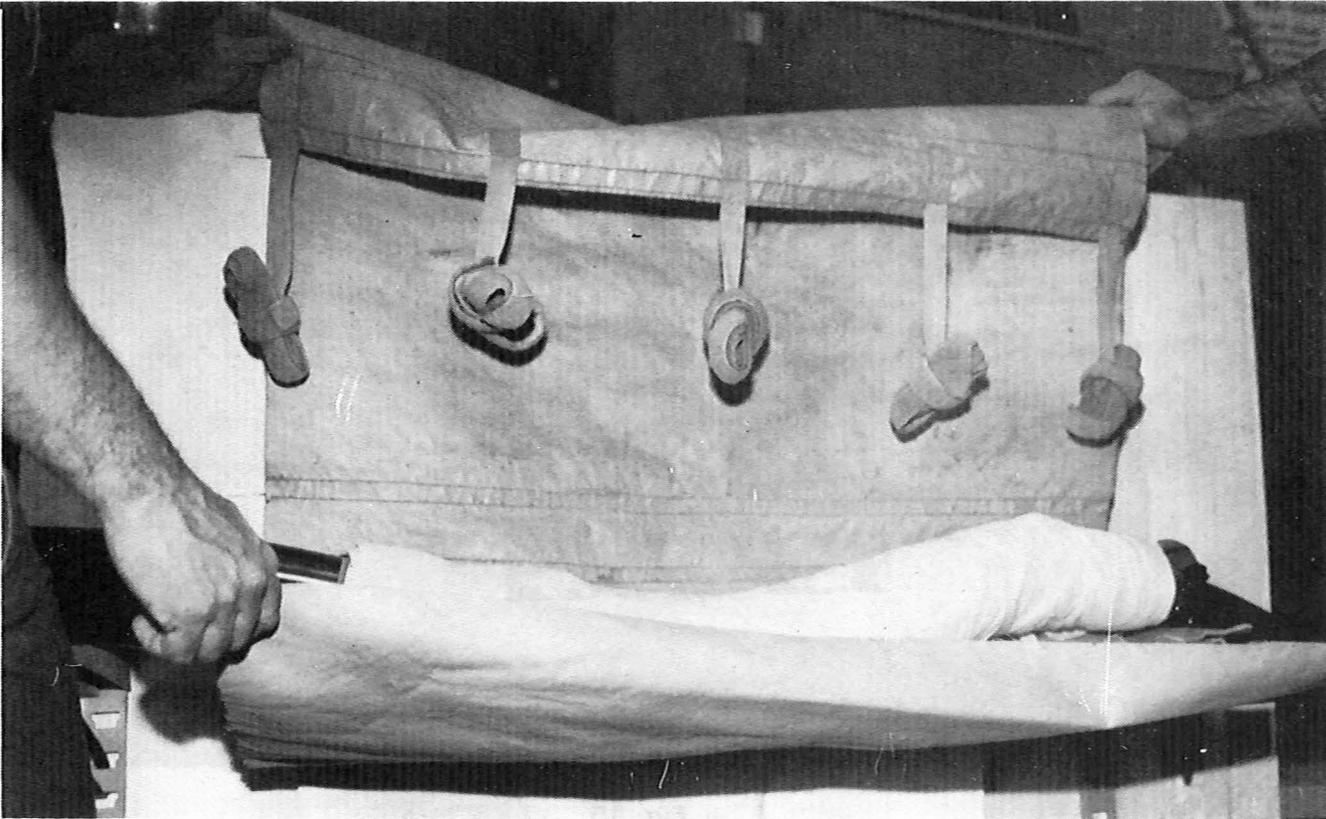

Fig. 13
1. Drape the boot cover behind the CR taped splice as shown in Fig. 13.